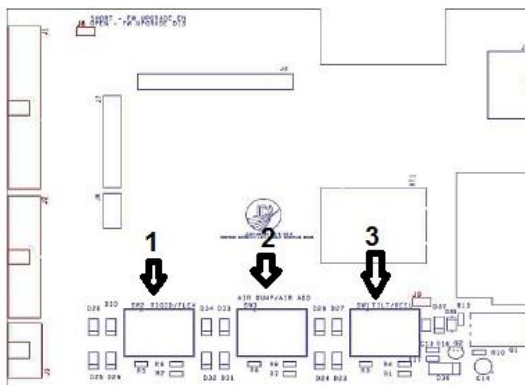

Figure 230
3. See Figure 230 for switch location